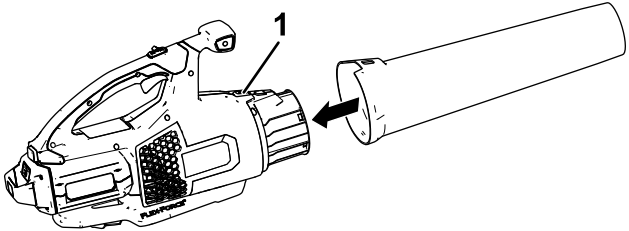

Figure 2
1. Slide the blower tube onto the blower housing. You may need to press down on the tube latch for the blower tube to lock into place (Figure 2).